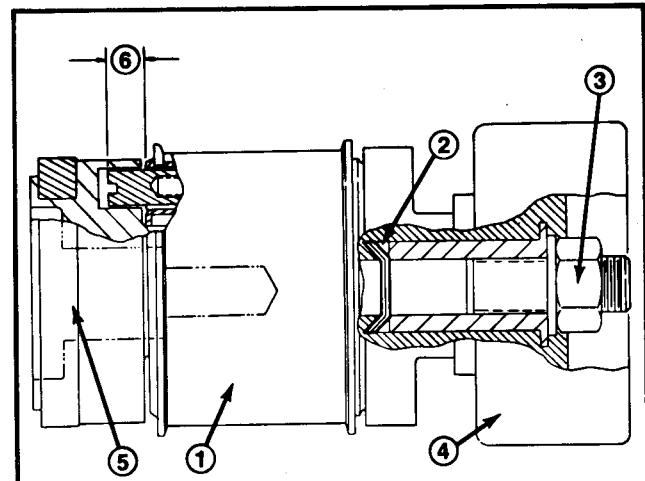

Figure 50
**IMPORTANT: If clutch has come apart since nut and washer were removed in step 1, make sure belleville washers are installed as shown in Figure 50.**
**IMPORTANT: When assembling clutch, make sure belleville washers are installed correctly (Fig. 50).**